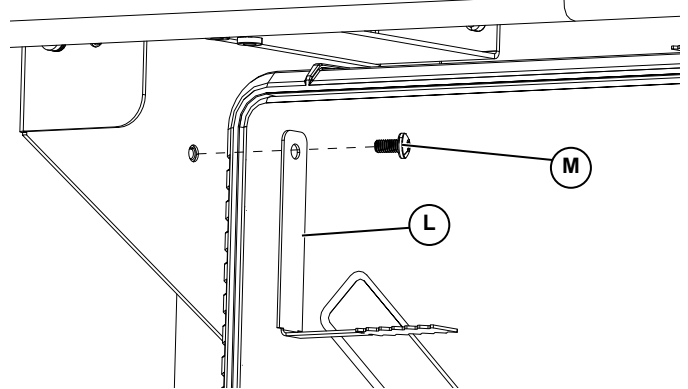

Figure 4-9. Installing Top Grounding Tabs
3. See Figure 4-9. Install grounding tabs (L) at the top of the module on both sides.
4. Fasten each grounding tab with a M4x8 mm SEMS screw (M) and torque to 13 in-lb (1.47 Nm).